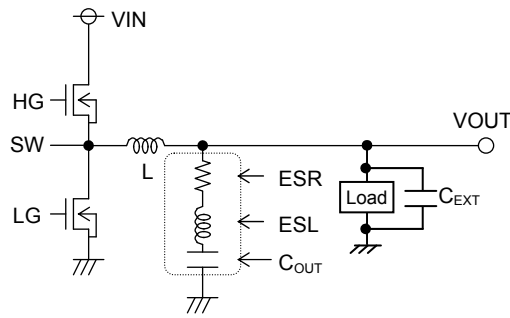

Fig.23 Output Capacitor
Also, give consideration to the conditions in formula (7) below for output capacitance, bearing in mind that output rise time must be established within the fixed soft start time. As output capacitance, bypass capacitor will be also connected to output load side (CEXT, Fig.23). Please set the over current detection value with regards to these capacitance.